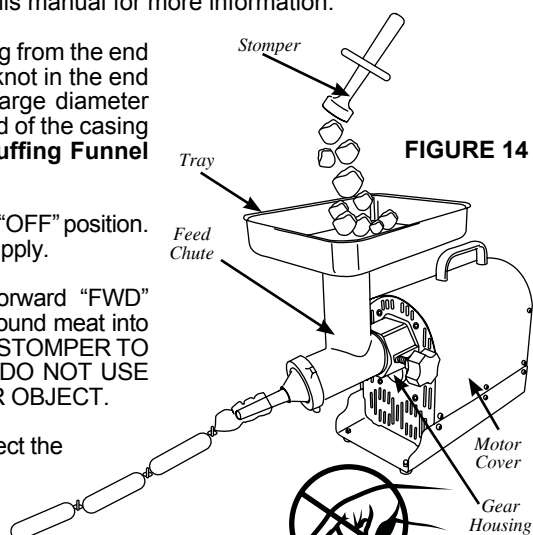

FIGURE 14
5. Slide 4"-6" (10-15 cm) of casing from the end of the **Stuffing Funnel** and tie a knot in the end of the casing. If you are using large diameter fibrous casing, hold the closed end of the casing tightly against the end of the **Stuffing Funnel** (Figure 14).